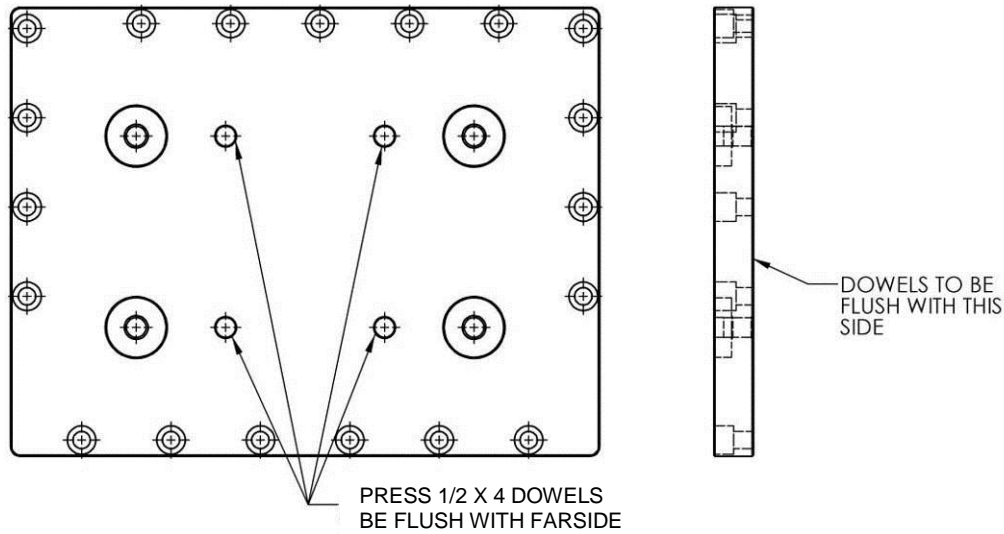
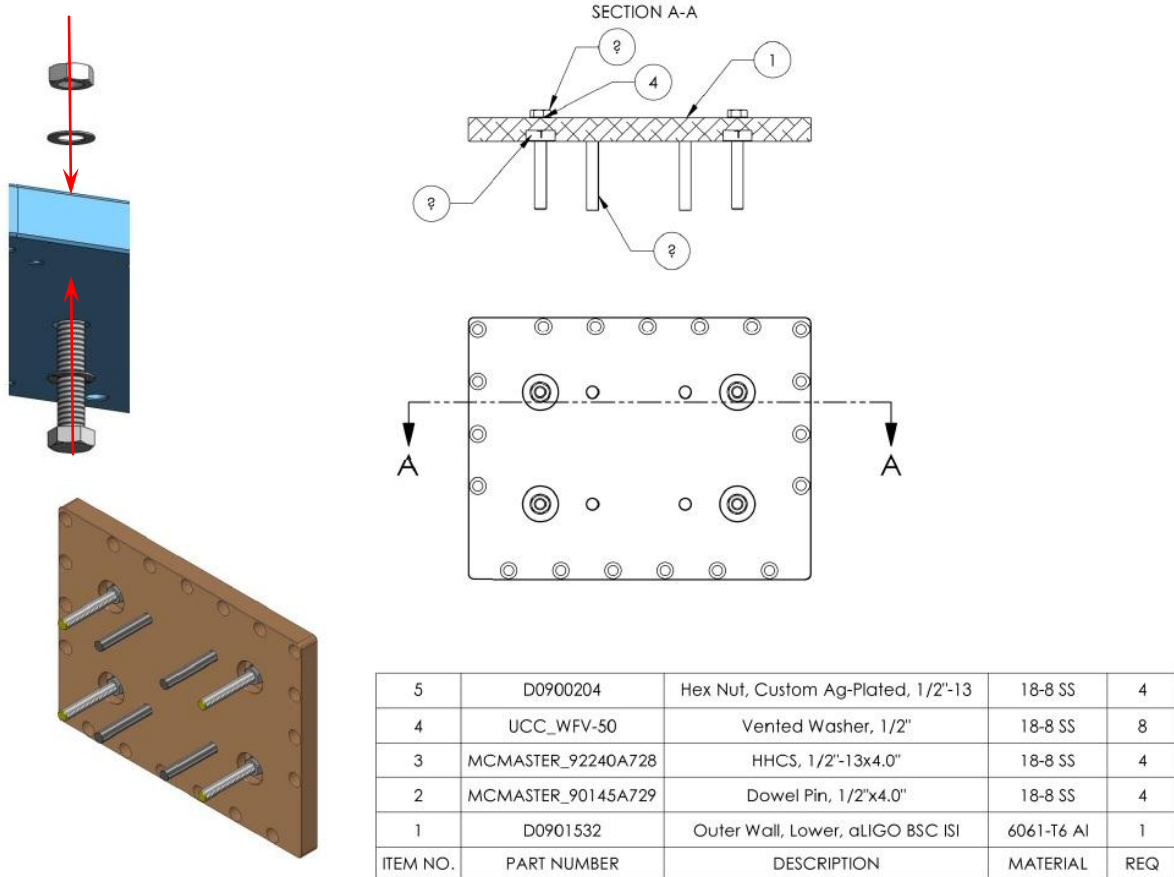

Figure 71: Prep Work for D0901532 Lower Outer Wall
Figure 72: Assembly Drawing of D1000052 Lower Outer Wall Assembly
(4) 1/2" x 4" dowel pins
- Press (4) 1/2" x 4" dowel pins into D0901532 as shown on Figure 71. Pins should be flush on the back of D0901532 as shown on Figure 71 & Figure 72.
(4) 1/2-13 Hex Nut, Custom Ag-Plated – D0900204
(8) 1/2" Vented Washers – UCC WFV-50
- Tighten to Wall, using D0900204 Silver Plated Hex Nuts on each screw, as shown in Figure 72.